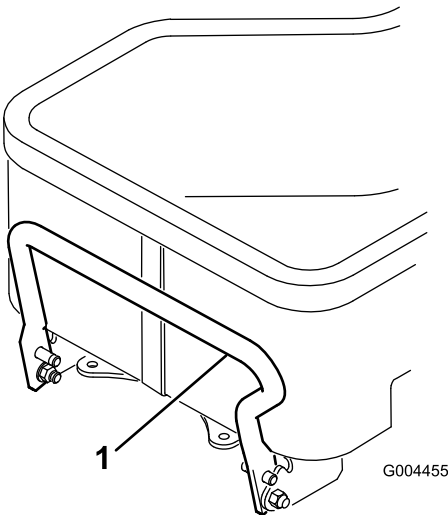

Figure 3
1. Rotate the kickstands down to support the utility box assembly off the ground (Figure 3).